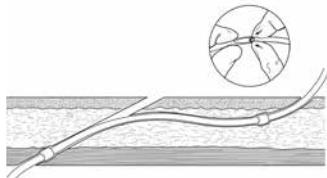

Figure 39
11. Push catheter off the Tunnelor Tool (Figure 39). Alternatively, cut the catheter off the Tunnelor Tool if sutures were used.